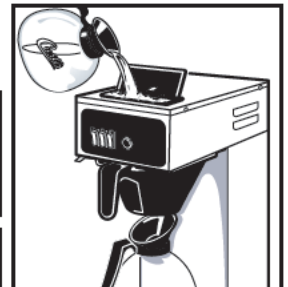

Figure 3. Pour cold water into pour hole.
3. When the green Ready to Brew light comes on, add 64 ounces or one decanter of room temperature water into opening on the top cover (fig. 3.). Brewing will take about three minutes.
**NOTE:** You should have at least two decanters for brewing coffee. One for pouring water, the other to brew coffee into. Airpot brewers will require a pitcher that holds 74 ounces (see figure 3).